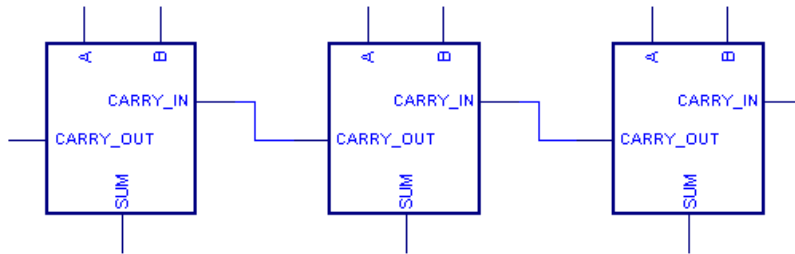

FIGURE 2 3-Bit Adder.
When a sum is performed using full adders, each adder handles a single column of the sum. Figure 2 shows how to build a circuit that adds two three-digit binary numbers using three full adders. The CARRY\_OUT for each bit is connected to the CARRY\_IN of the next most significant bit. Each bit of the three-bit numbers being added is connected to the appropriate adder's inputs and the three SUM outputs make up to full 3-bit sum result.
- Complete the table by filling in the correct values for CARRY\_OUT so that adders connected as in Figure 2 will perform valid addition.